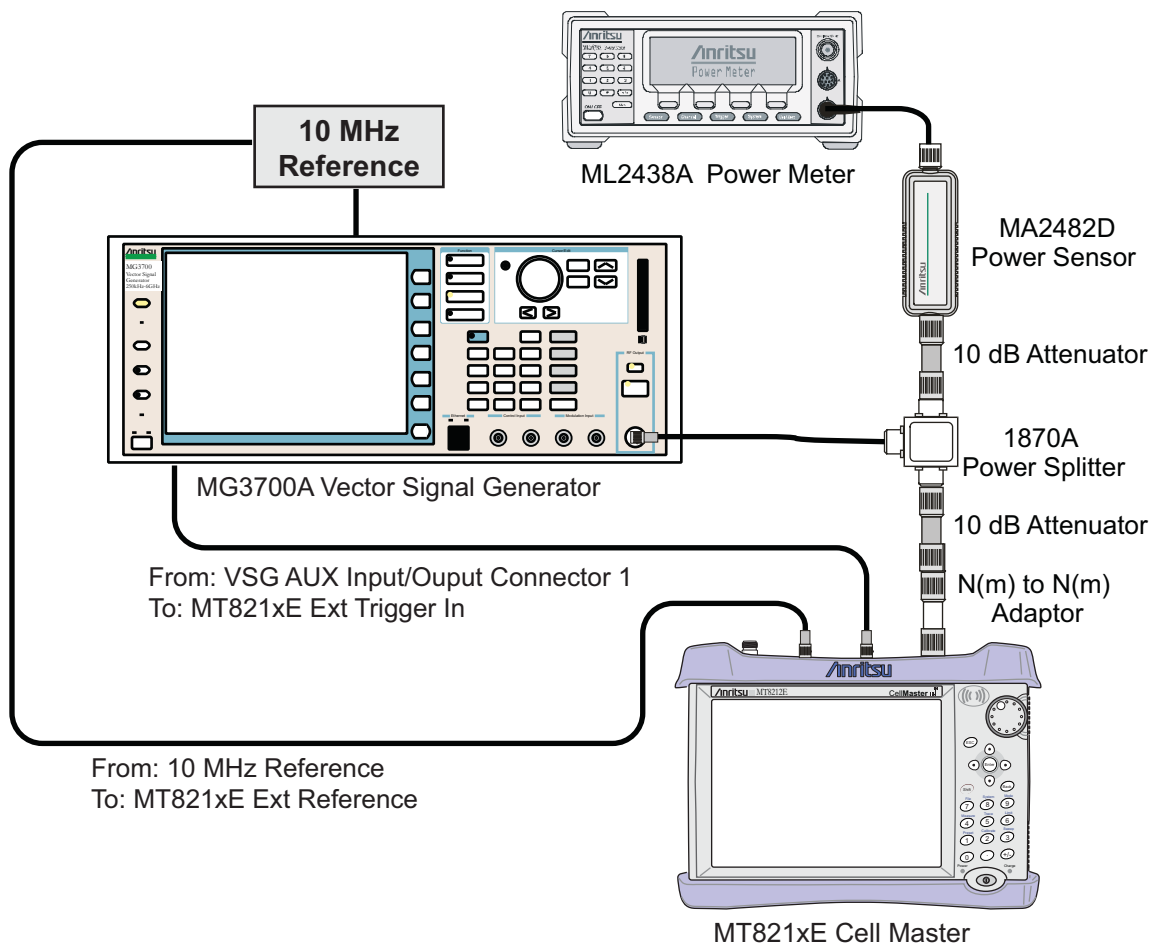

Figure 5-11. Fixed WiMAX Signal Analyzer Option Verification
3. Connect the equipment as shown in Figure 5-11.
3. Connect the equipment as shown in Figure 5-11 on page 5-50.